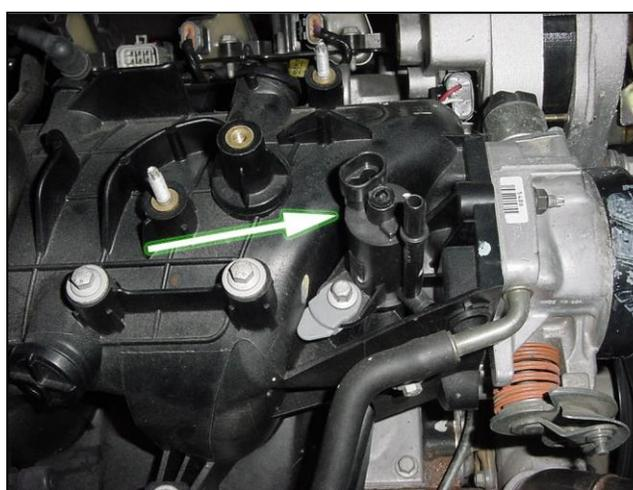

FIGURE 6.5 Canister Purge Solenoid
- 5. CANISTER PURGE (not equipped on all models)** - The Evaporative Emissions (EVAP) control system is the charcoal canister storage method. This method transfers fuel vapor from the fuel tank to an activated carbon charcoal storage canister, to hold the vapors when the vehicle is not operating. When the engine is operating, the fuel vapor is purged from the carbon element by intake air flow and consumed in the normal combustion process. **See Figure 6.5**